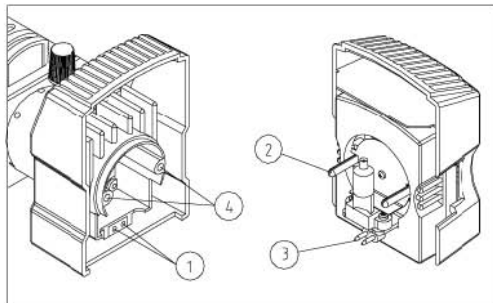

Fig. 3
4. Align the socket ① with the pins ③, and the bolts ② with the jacks ④. Then insert the lamphouse cover completely into place. (Figures 3 & 4)